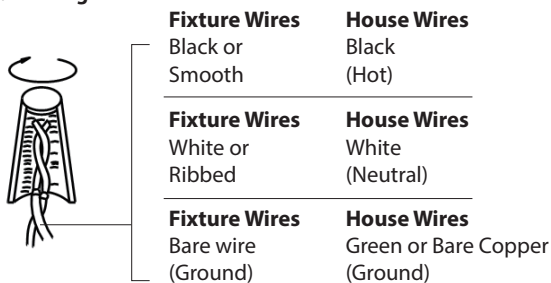

FIG.3 Driver Wiring
5. Remove the screw (E) and bottom cover from the fixture.
6. Insert four clear seedy glass along the inner wall of the fixture, then secure the bottom cover to the fixture using the screw (E).
7. Connect the IC module output wire with fixture wire as shown in (Fig. 3) red to the red, and black to the black. make sure connectors (B) are secured.